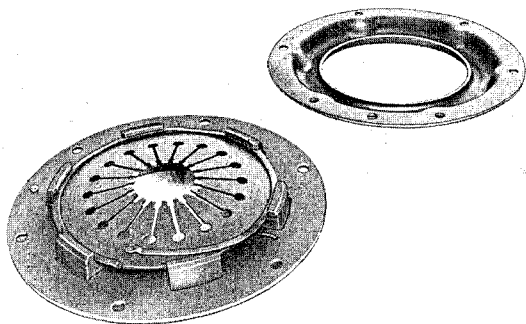

Fig. 255
2. Remove lock ring starting at one end (Fig. 255).